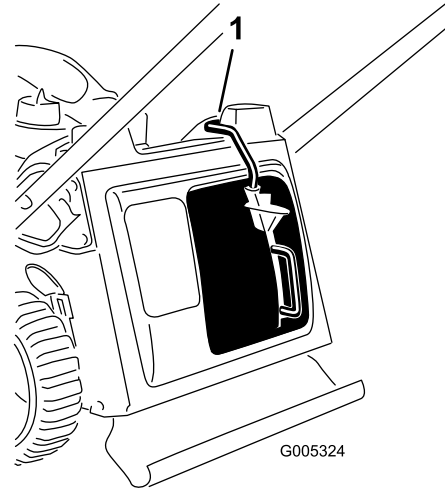

Figure 22
**Important:** The mower has a safety switch that prevents you from starting the mower unless you first install the mulch plug securely on the mower (Figure 22).
Install the mulch plug as illustrated in Figure 22.